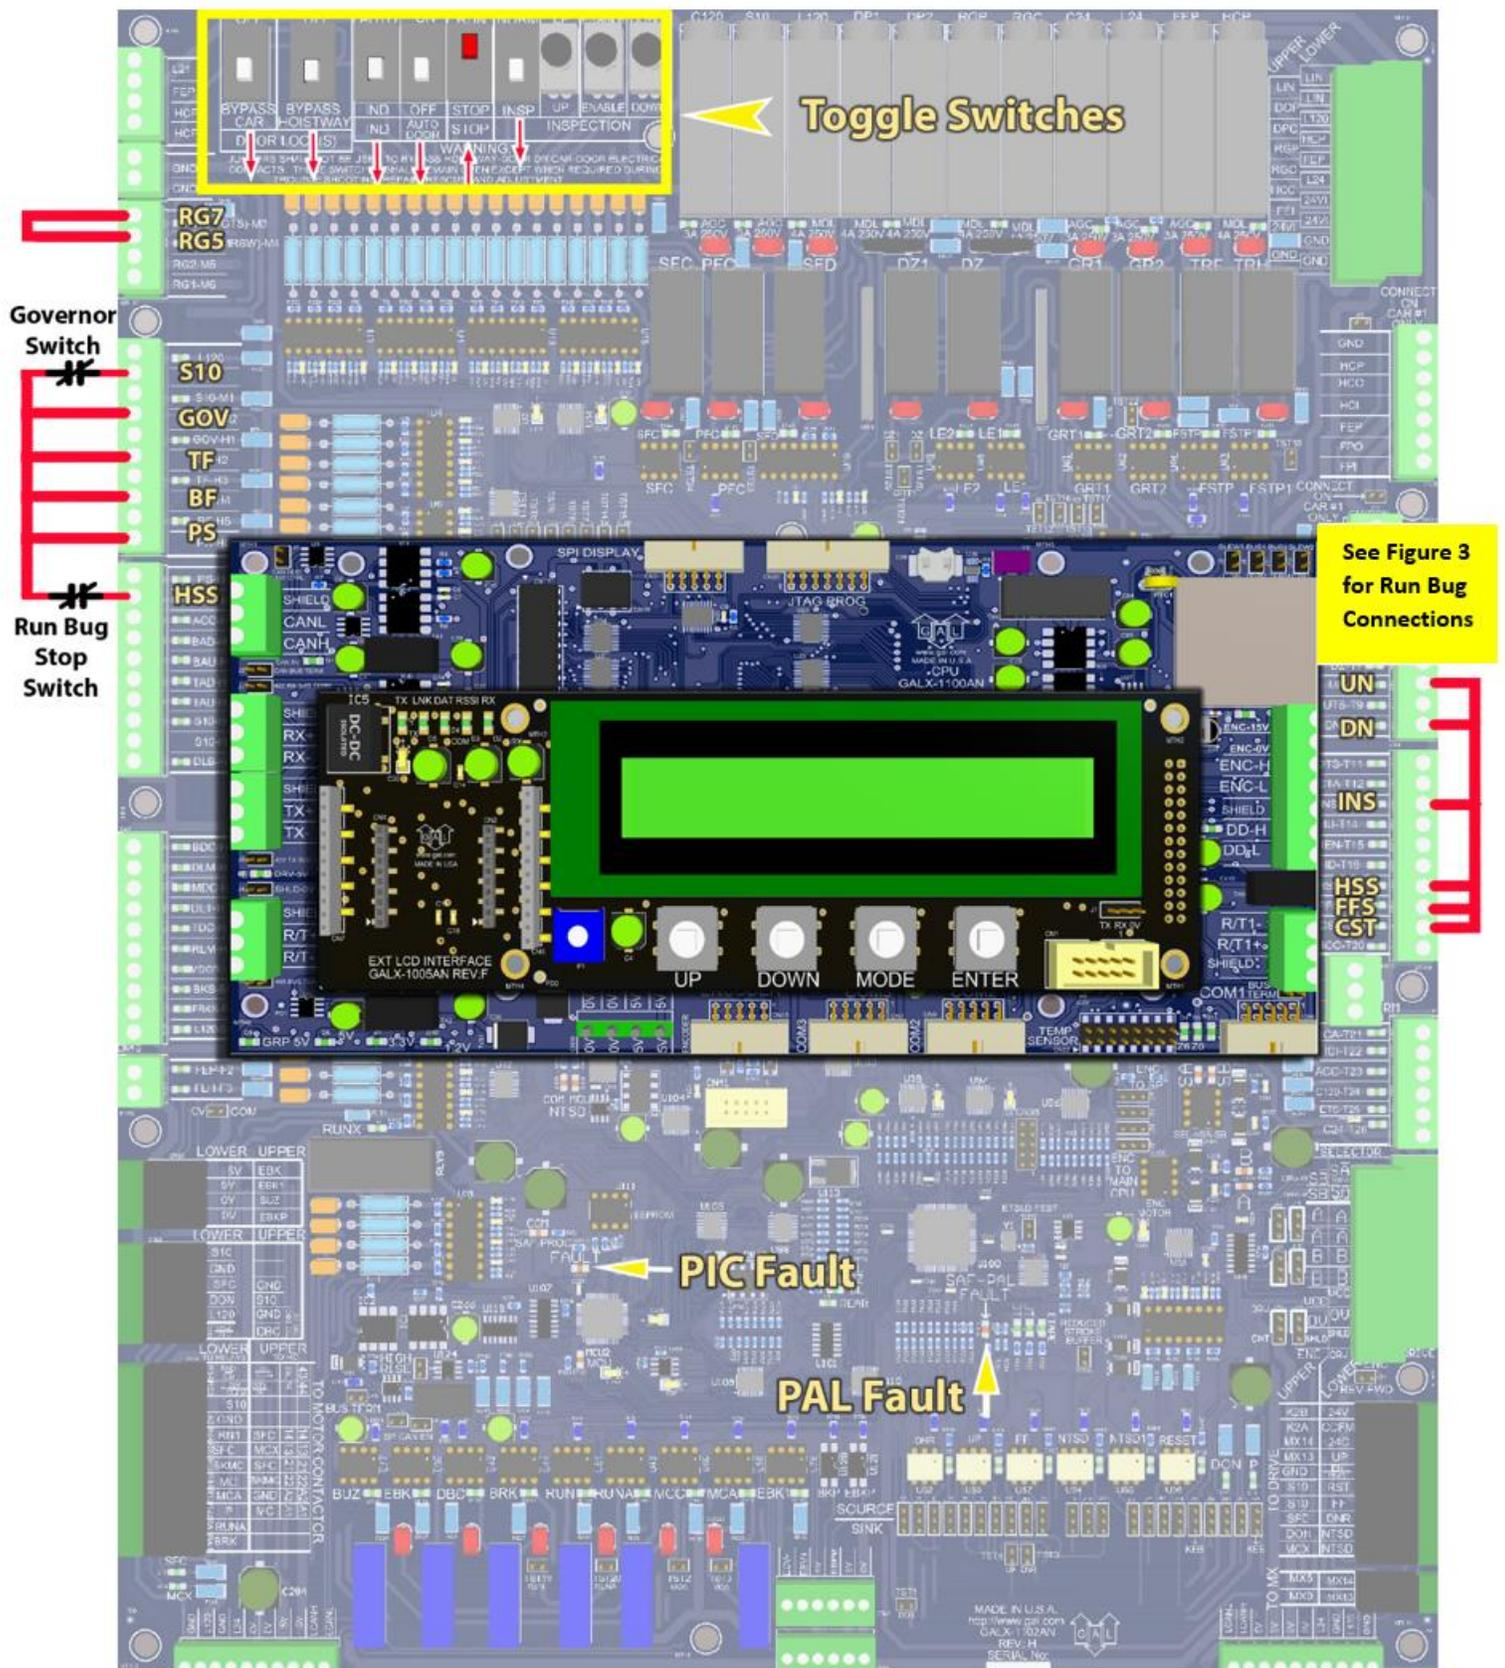

Figure 4: GALX-1102AN Main I/O Board
- 1.5 Set the toggles switches on the GALX-1102 Main I/O Board as show in Figure 4.
- 1.8 Verify the PIC and PAL fault LED’s are off. See the GALX-1102AN Main I/O Board in Figure 4. If these LED’s are on, refer to the GALaxy IV adjustment manual for possible causes of these faults.
With Run Bug. See Figure 4